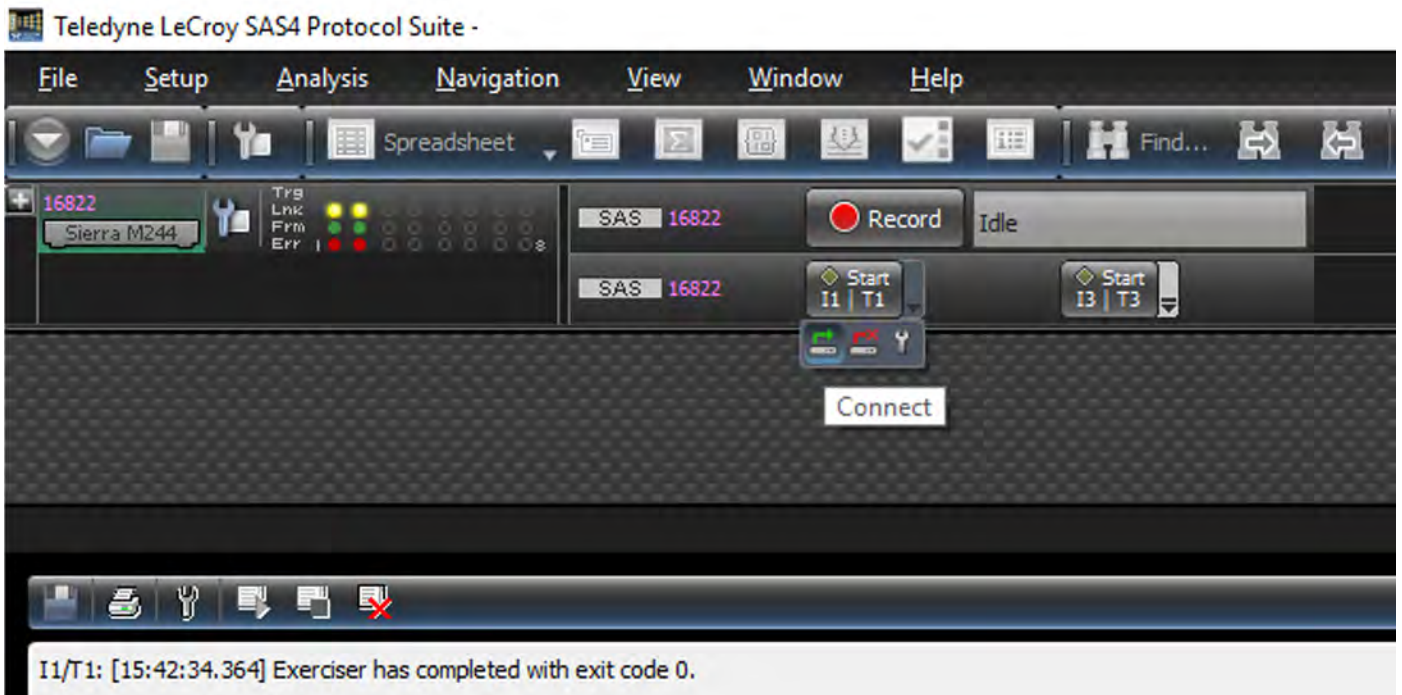

Figure 8.36: I1/T1 and I3/T3 Connected and Linked Up
2. If you connect both P1/P2 and P5/P6, both links are connected and linked up. See Figure 8.36 below.